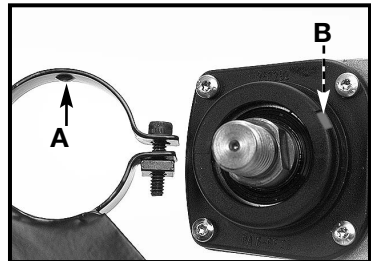

Fig. 2
2. Position the appropriate guard to the tool so that the three bosses (A) Fig. 2 (inside the guard mounting clamp) are aligned with the three notches (B) Fig. 2 in the mounting flange of the grinder.